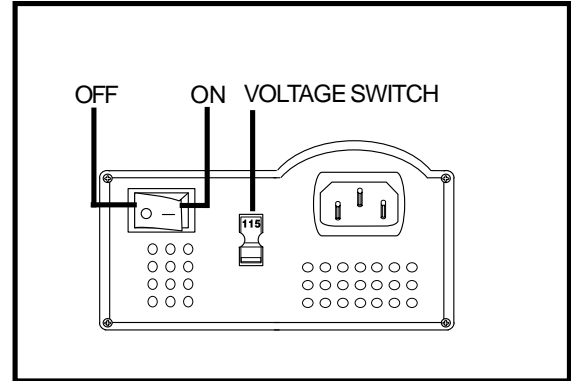

Figure 8. Charger On/Off and Voltage Switches
The off-board charger supplied with your scooter is equipped with a 115/230 voltage switch. Confirm that this switch is in the proper position for your locality. If you are not sure what the voltage is in your country, contact your local electricity provider before inserting the charger power cord plug into your electrical outlet. If the setting is incorrect, the charger will not function properly. Slide the voltage switch to the prescribed position. **See figure 8.**
7. Turn the charger on. **See figure 8.**